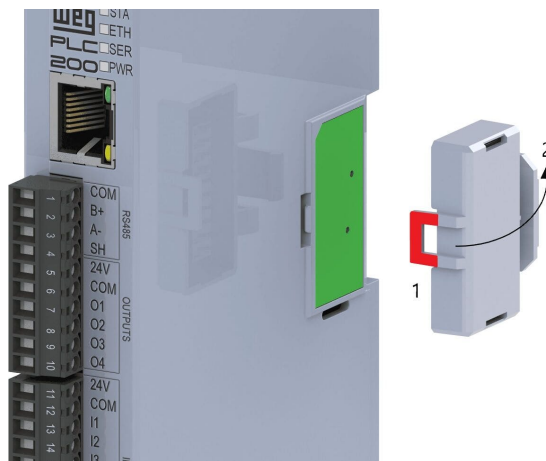

Figure 3.6: Closure fitting
To install the closure correctly, first fit the part highlighted in red (1) to Figure 3.6 on page 3-4; then, with a slight rotation movement, fit part (2), which is close to the rail or panel.